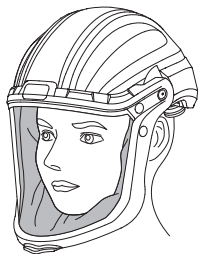

fig.1a
- Put the face shield on and adjust the face seal, make sure the face seal fully sealed around the face (See fig.1a).